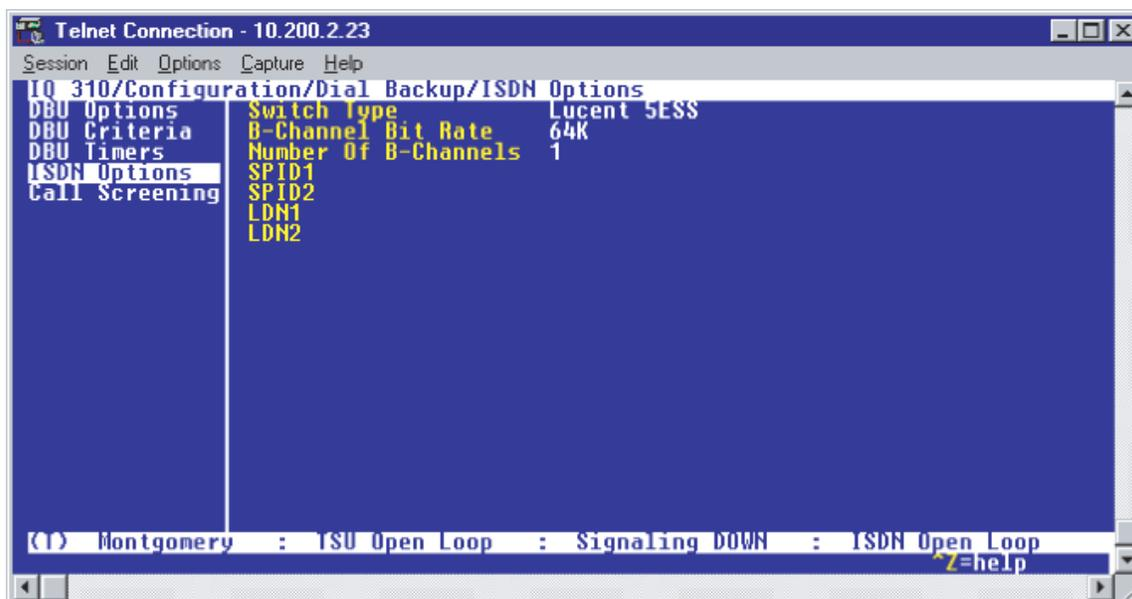

Figure 40. ISDN Options Menu
1. Use the down arrow to select **ISDN OPTIONS**; press **<ENTER>**. The menu screen shown in Figure 40 is displayed. The default values for the parameters on this screen are shown.